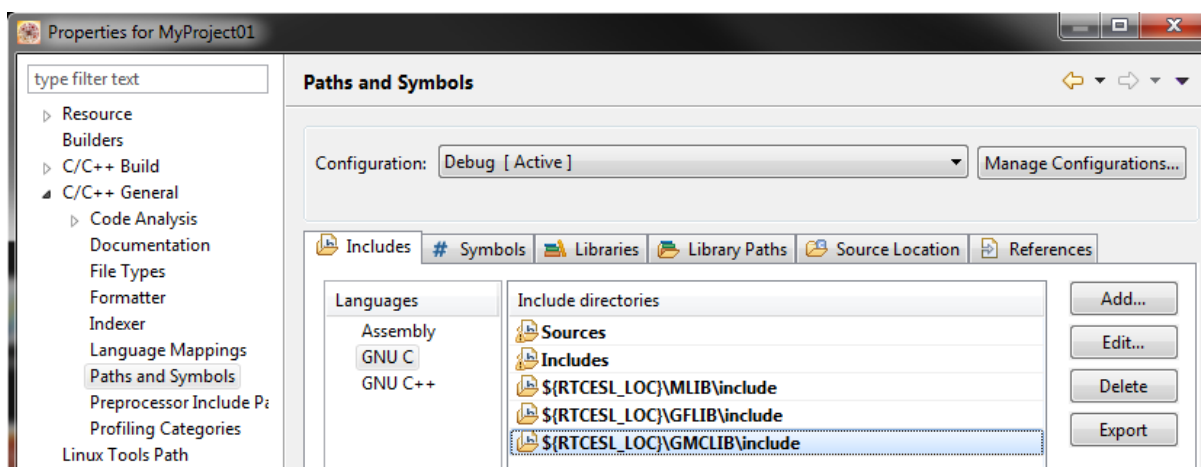

Figure 1-15. Compiler setting
19. In the right-hand dialog, select the Includes tab, and click GNU C in the Languages list. See Figure 1-15.
26. Click OK, and you will see the paths added in the list. See Figure 1-15. Click OK.